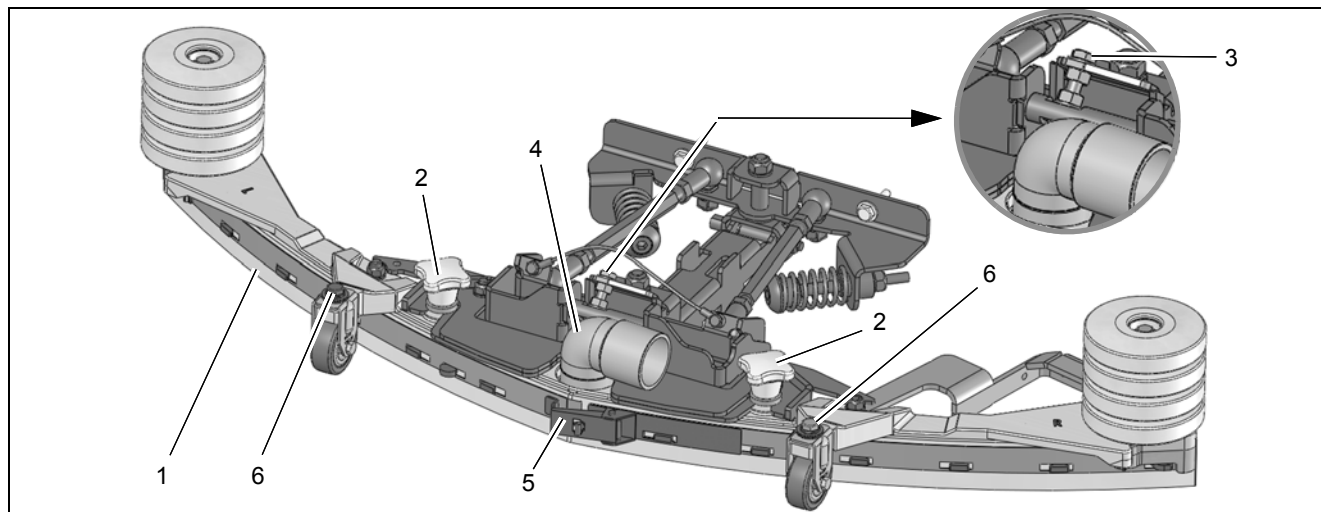

Fig. 28
Check the squeegee (Fig. 28/1) daily and clean as necessary.
To clean the squeegee, raise it, disconnect the suction hose (Fig. 28/4), loosen the two star-shaped knobs (Fig. 28/2) and remove the squeegee.
Check the inner and outer sealing strips on the squeegee (Fig. 28/1) weekly for signs of wear. The sealing strips can be turned four times (90°) and reused.
3. Loosen the fastening device (Fig. 28/5) and remove the outer sealing strip. Turn the sealing strip or replace it, as necessary. Change the inner sealing strip in the same way.
2. Loosen the conternut on the screw (Fig. 28/3) and use the conternut to adjust the squeegee so that the ends of the sealing strips just make contact with the floor.
The height adjustment is set to 3 mm at the factory. If, despite an optimum angle adjustment, streaks are produced, the distance between the rollers and floor must be adjusted by altering the number of washers (Fig. 28/6) on the holder.